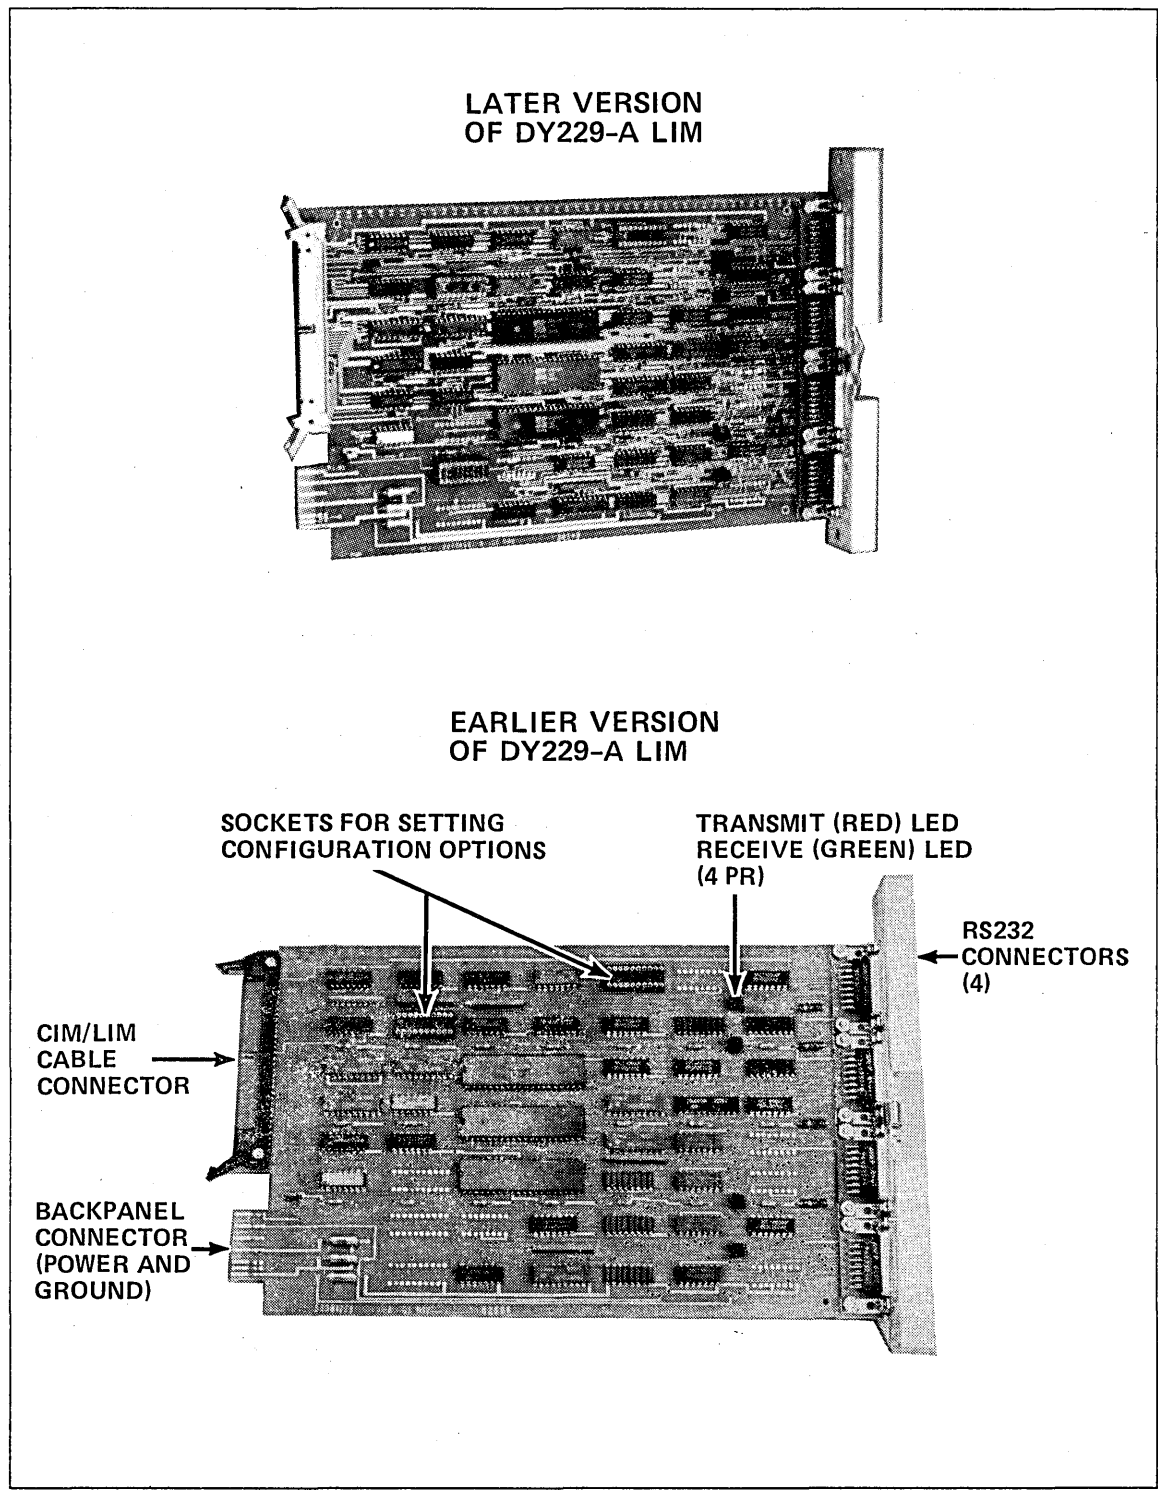

Figure 1-26. DY229-A LIM
2. Unpack the LIM boards (shown in figure 1-26), the equipment labels, and the FCO labels.